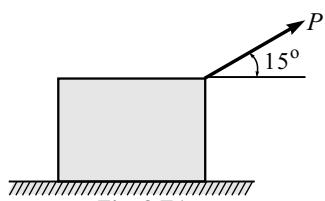

Fig. 8.E1
2. A 100 N force acts, as shown in Fig. 8.E2, on a 30.6 kg block on a inclined plane. The coefficient of friction (static and kinetic) between the block and the plane are $\mu_s = 0.25$ and $\mu_k = 0.20$, respectively. Determine whether the block is in equilibrium and find the value of the friction force. Take $g = 9.81 \text{ m/sec}^2$.